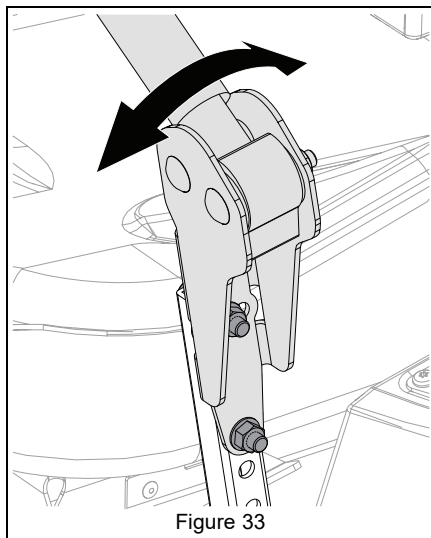

Figure 33
8. Loosen mounting hardware, align levers and tighten hardware. See Figure 33.